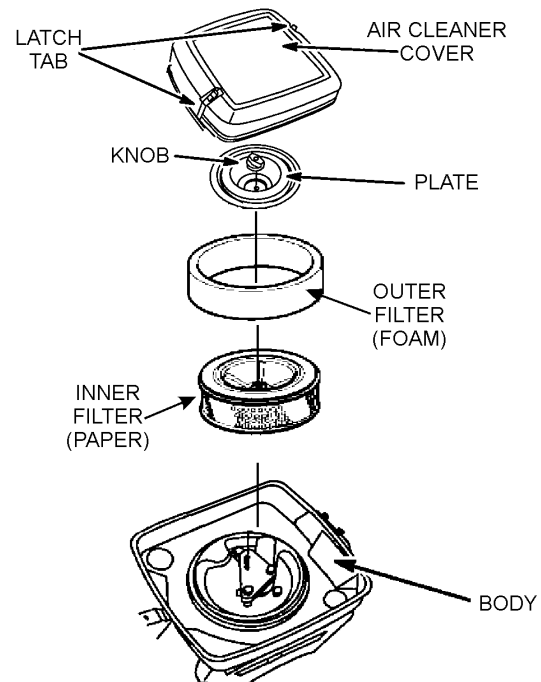

Figure 29. Air Filter Components
1. Release the latch tabs (Figure 29) on each side of the air cleaner cover, and remove cover.